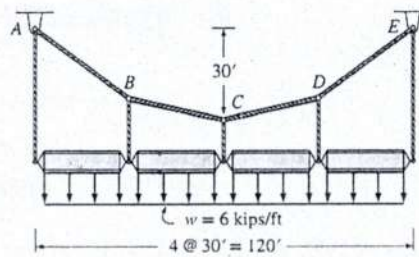

Figure: 3
3. (a) The cable in Figure 3, supports four simply supported girders uniformly loaded with 6 kips/ft. (i) Determine the minimum required area of the main cable *ABCDE* if the allowable stress is 60 kips/in.². (ii) Determine the cable sag at point *B*. 05